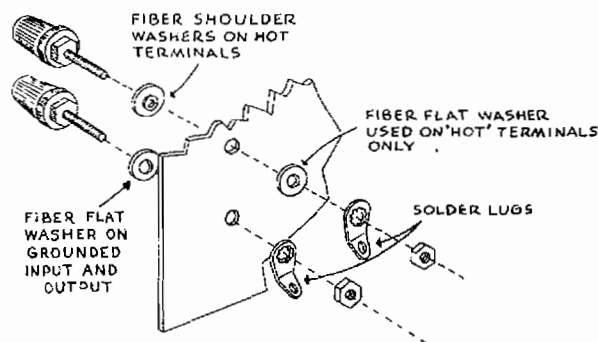

Figure 7
- On the front panel, mount a binding post base at BA. Place the post through a flat fiber washer, the panel, a solder lug and 6-32 nut. Orient the solder lug as shown in Figure 1. See Figure 7.
- Mount a binding post base at BH, placing the base through a shoulder fiber washer, the panel, a flat fiber washer, a solder lug and nut as in Figure 7. Make sure the shoulder washer is properly seated before tightening.